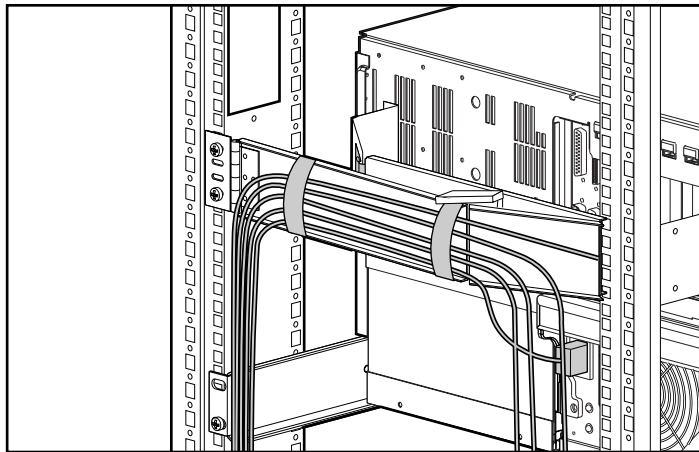

Figure 3-17. Attaching and securing external cables
4. Attach and secure external cables for keyboard, mouse, monitor, network and power as shown in Figure 3-17. See Chapters 7 and 8 for external cabling connector locations.